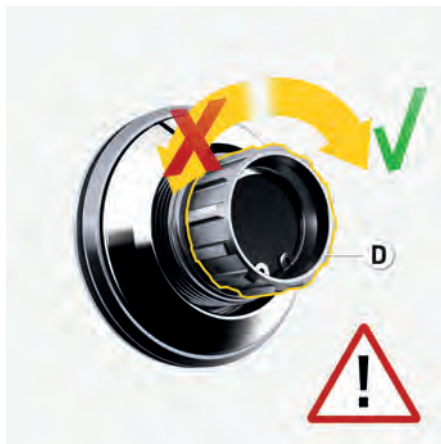

Fig. 202: Check anti-loss device
- ▶ Loss protection **D** (Fig. 202) must turn clockwise. It clicks like a safe lock.
- ▶ Anti-loss device **D** (Fig. 202) must not turn counter-clockwise. Irregular clicking, delayed locking, skipping, or jamming indicate damage to the anti-loss device. Never use this central bolt.